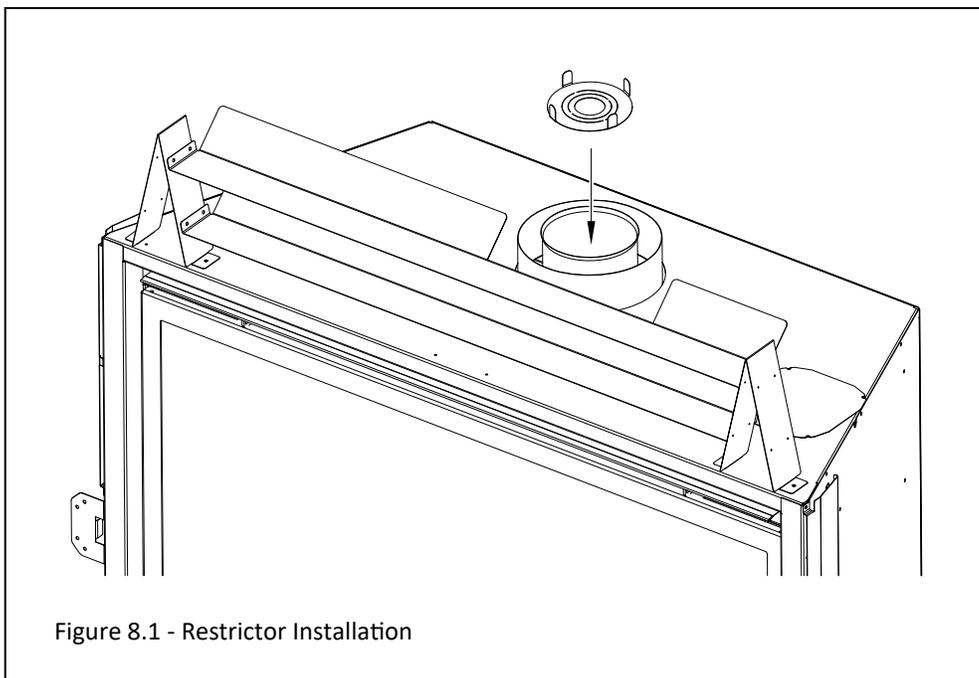

Figure 8.1 - Restrictor Installation
- The provided vent heat shield is required to be installed in all venting scenarios. See Figure 8.1. The stand off assembly and heat shields are cut away in this image to show the vent heat shield better.
- The restrictor plate is shipped with all inner rings intact, and when installed, provides the most vent restriction. There are (2) inner rings that can be knocked out. As you knock out and remove an inner ring you have less vent restriction where removing both inner rings you will have the least amount of vent restriction.
- Follow FIGURE 8.1 for restrictor plate installation before attaching venting or through the baffle if venting is already attached. For vent restriction plate recommendations and adjustments, see section 12.2.3, Vent Restriction (after installation).